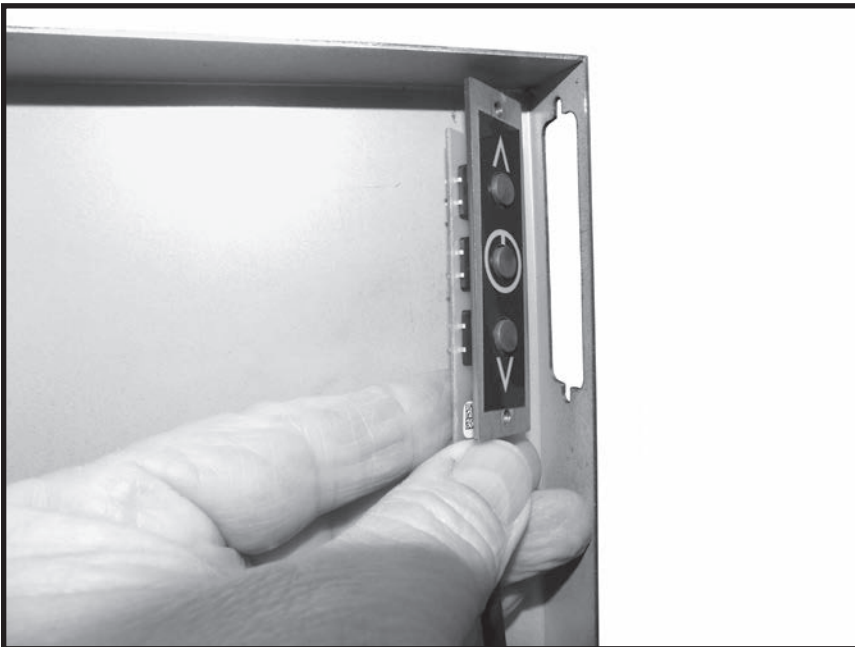

Figure 90: Positioning the switch behind the backing plate opening slot.
2. Position the ON/OFF switch against the open slot on the surround backing plate. Be sure to orient the switch as shown in (Figure 90).